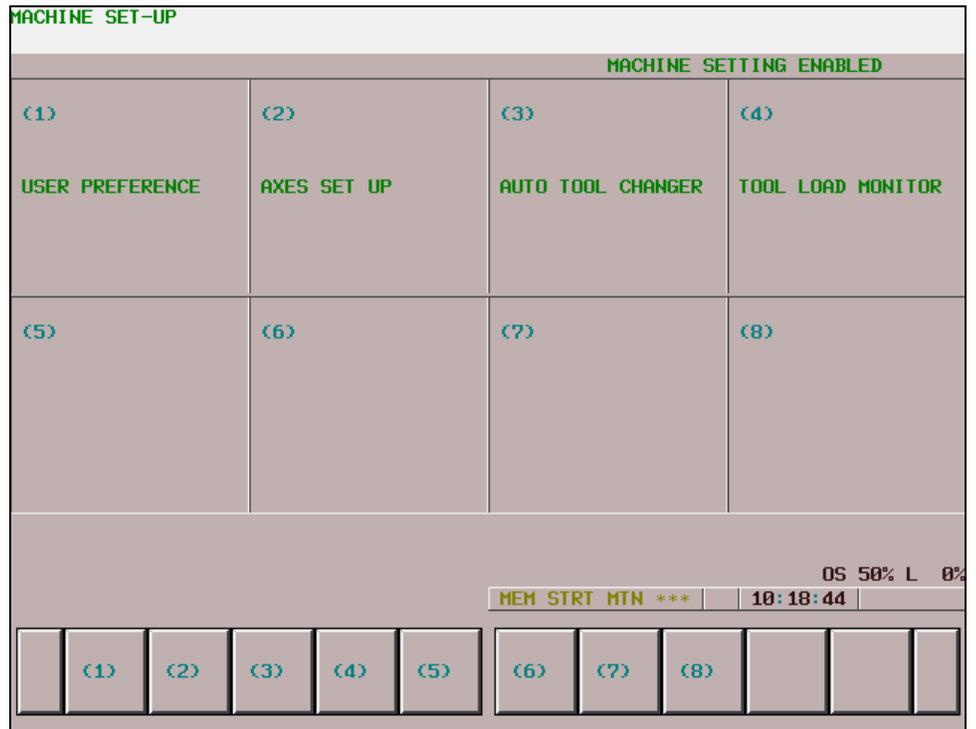

Figure 4-1: Machine Set-Up
Press (1) softkey (Figure 4-1:) to display User Reference screen.
Press (2) softkey (Figure 4-1:) to display Axes Set Up screen.
Press (3) softkey (Figure 4-1:) to display Auto Tool Changer screen.
Press (4) softkey (Figure 4-1:) to display Tool Load Monitor screen.